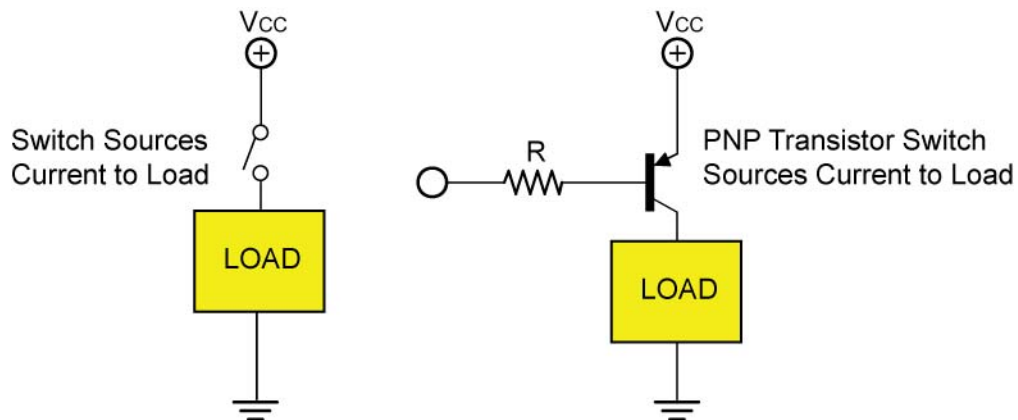

Figure 24: Sourcing Current with a Switch and a Transistor
- Current sourcing is when a device (switch and PNP transistor switch in Figure 24) supplies an output voltage and can drive current through a load whose other side is connected to ground or system common. PNP transistors and P-channel FETs are used as current sources. The switch and PNP transistor switch in Figure 24 are acting as a “high side switch”.